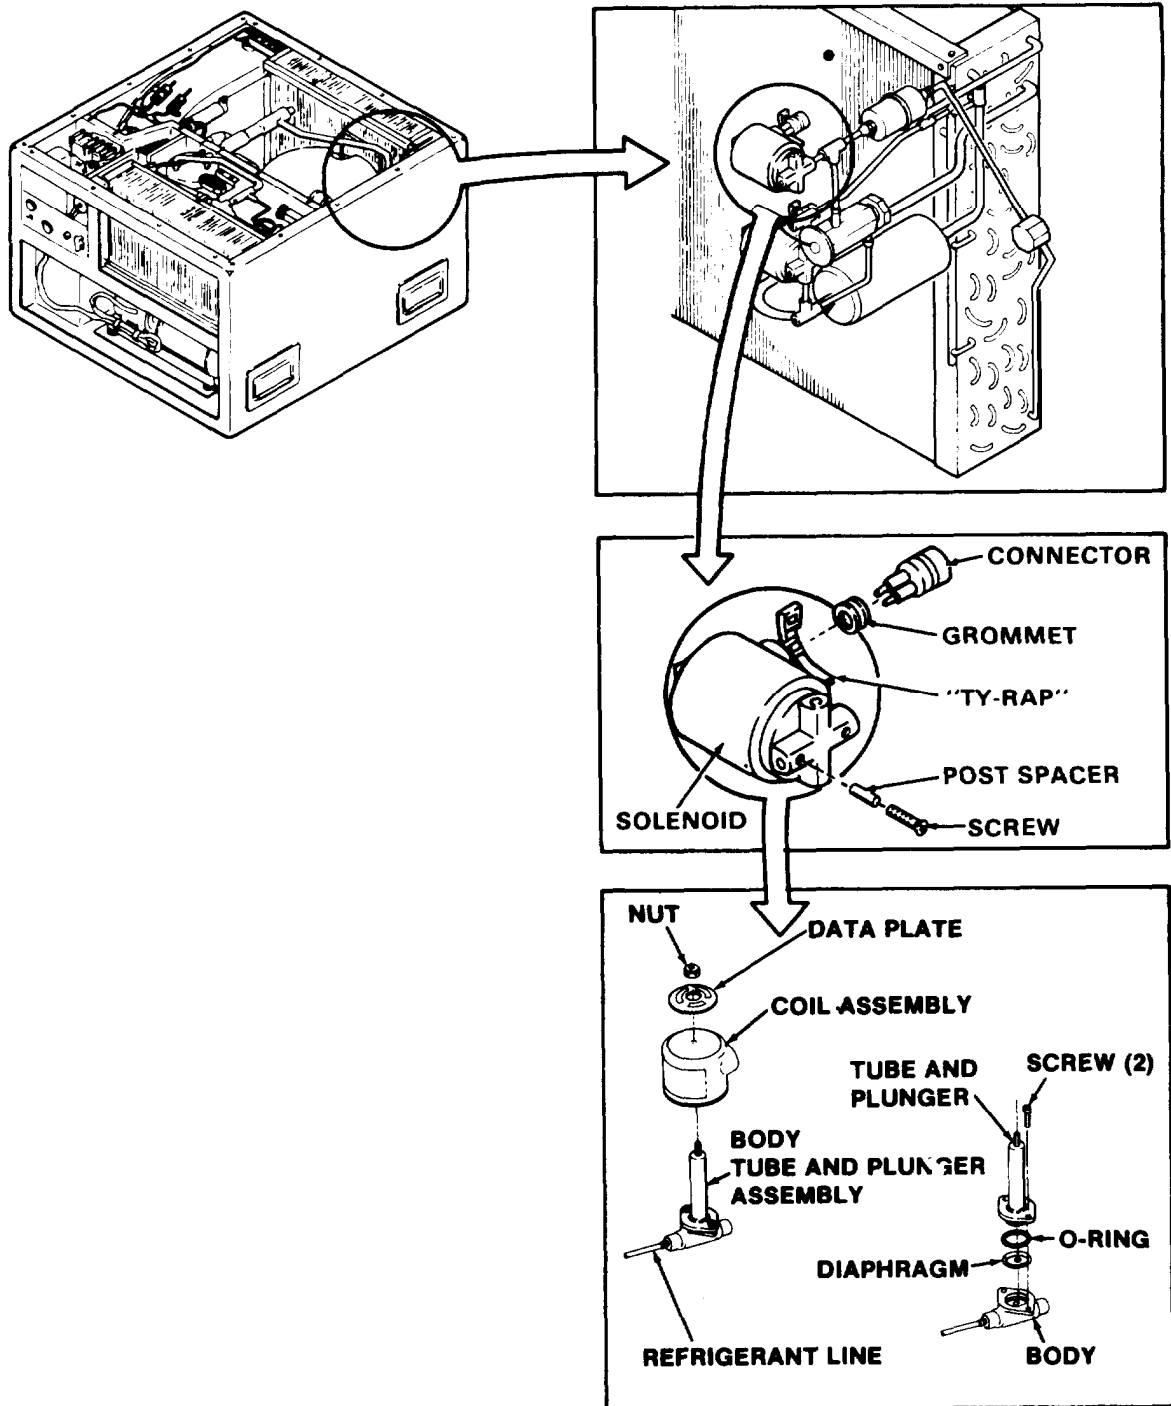

Figure 5-5. Liquid Line and Pressure Equalizing solenoid valves
- (1) Refer to paragraph 6-3 and discharge the refrigerant system.
- (2) Refer to paragraph 4-18 and remove top covers.
- (3) Refer to figure 5-5 and remove solenoid cover and coil.
- (4) Remove two solenoid valve mounting screws.
- (5) Unsolder solenoid valve from tubing.
- (1) Refer to figure 5-5 and mount solenoid on compartment wall.